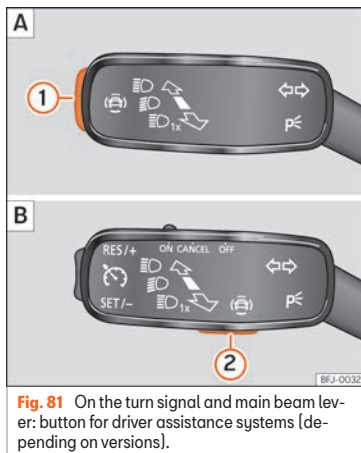

Fig. 81 On the turn signal and main beam lever: button for driver assistance systems (depending on versions).
- Press »» Fig. 81 **1** or **2** briefly to open the **Driving aids** menu.